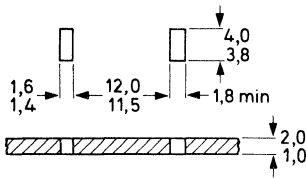

Fig. 1 Heatsink requirements.
2. Push the short end of the clip into the narrow slot in the heatsink with the clip at an angle of  $10^{\circ}$  to  $30^{\circ}$  to the vertical (see Figs 1 and 2).